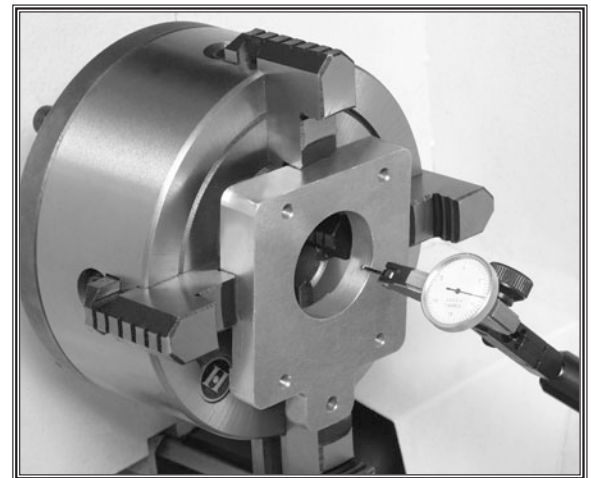

Figure 13. Exact centering procedure with a typical 4-jaw chuck using a dial indicator.
8. Make fine adjustments by slightly loosening one jaw and tightening the opposing jaw until the workpiece is precisely aligned. Use a dial indicator to fine tune adjustments into alignment (see **Figure 13**).